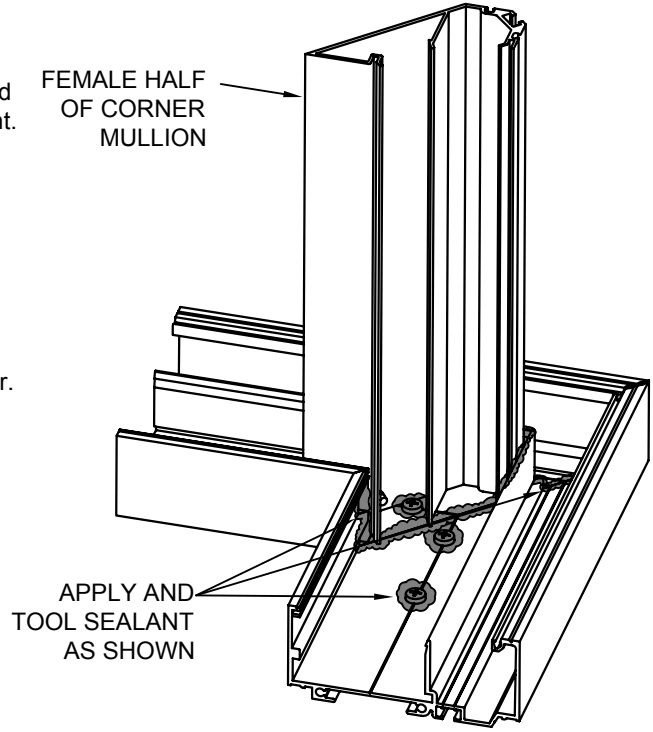

FIGURE 1
- STEP A:** Install female dart corner half into head and sill receptors and position in corner. Do not damage the sill receptor splice joint. (Figure 1)